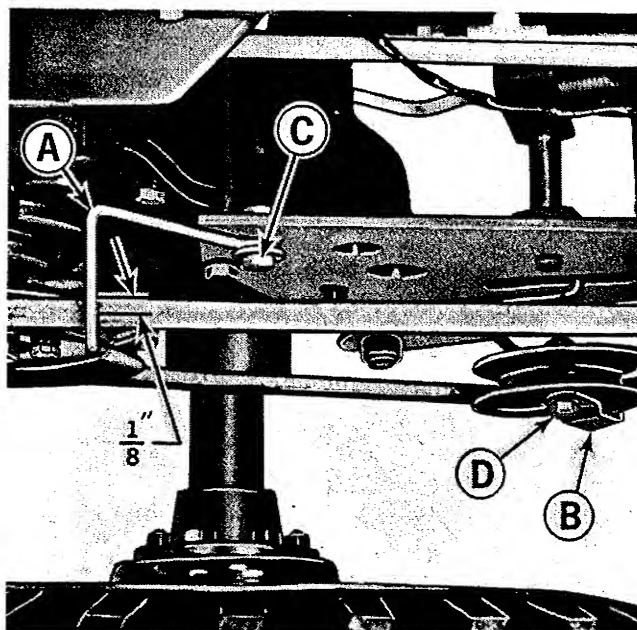

Figure 11. Belt Stop Adjustments.
See figure 11. With the clutch-brake pedal released, the belt stops at (A) and (B) should be positioned as shown. There should be $\frac{1}{8}$ " clearance between belt stop (A) and the belt as shown. If adjustment is required, loosen the cap screw at (C) and position the belt stop correctly. Tighten cap screw (C) securely after making the adjustment.